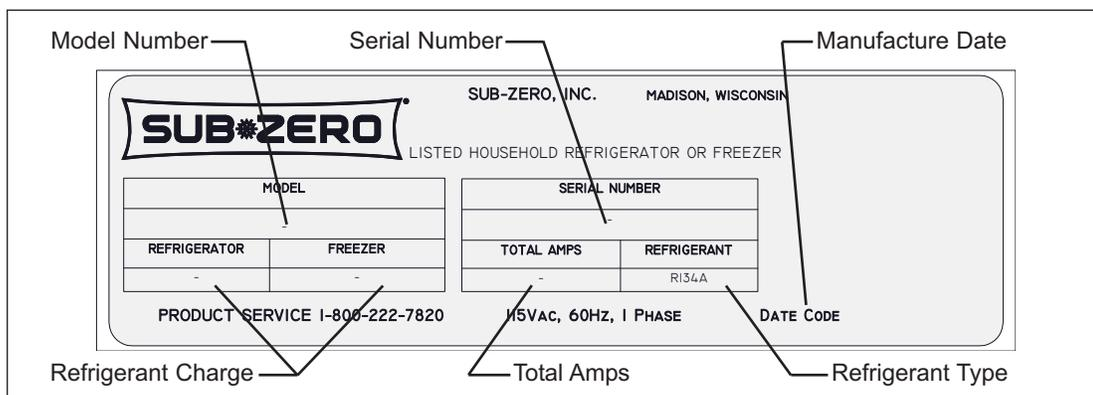

Figure 1-1. Serial Tag Layout
- The serial number tag is located on the upper left side wall of the compartment. (See Figures 1-1, for serial tag layout)